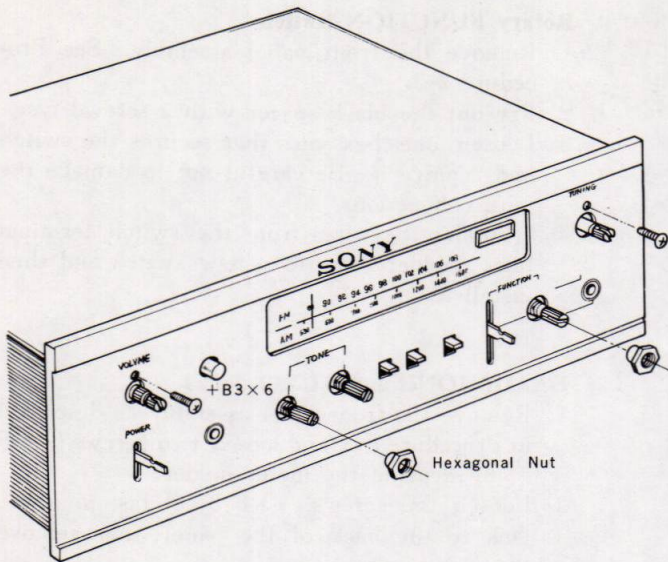

Fig. 2-2 Removal of front panel
2. Remove all control knobs by pulling them out. See Fig. 2-2.
3. Loosen the two screws (+B 3×6); one is just above the VOLUME control shaft and the other is also above the TUNING shaft. See Fig. 2-2.
4. Loosen the two hex nuts that secure the BASS control and rotary FUNCTION switch to the front panel. See Fig. 2-2. Be careful not to scratch or otherwise damage the front panel